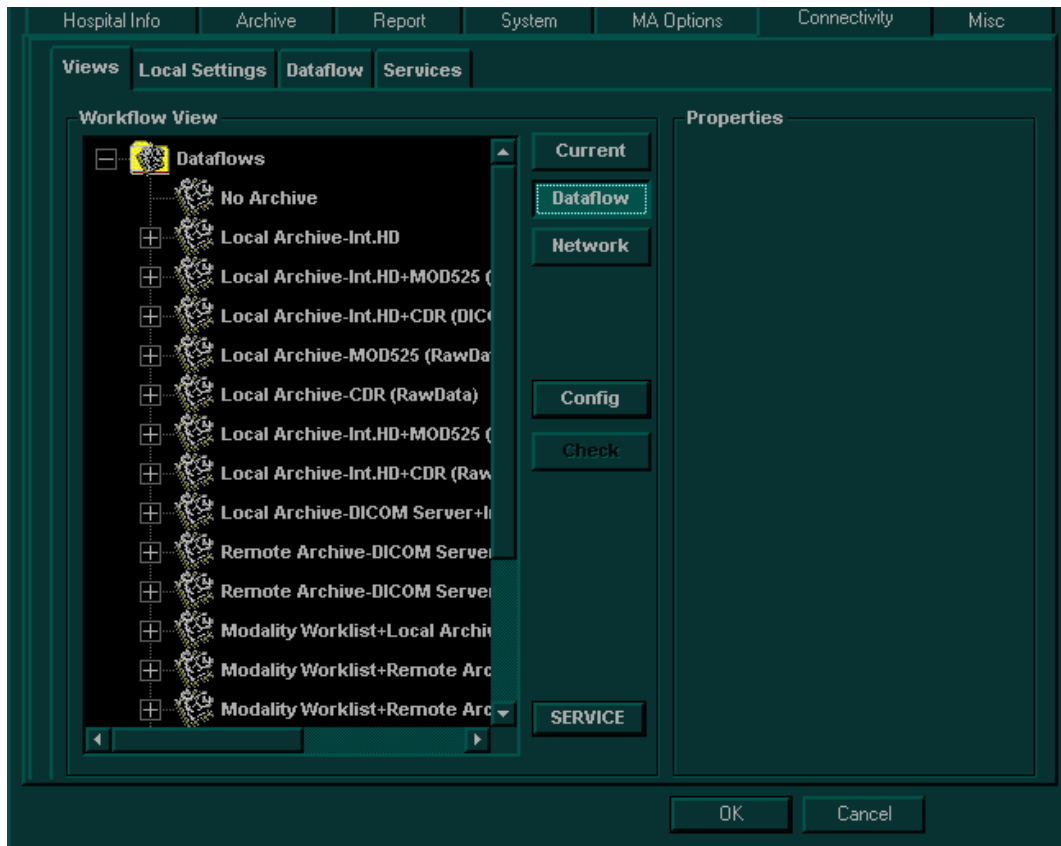

Figure 3-42 Views Tab
- 11.) Trackball to the **Dicom Print** line in the **Services** table. The **Services** tab is expanded, as shown in Figure 3-42 below.
- 3) Trackball to the **Dataflow** button and press **Select**. The full list of data flows is displayed, as shown in Figure 3-42 "Views Tab" on page 3-58.